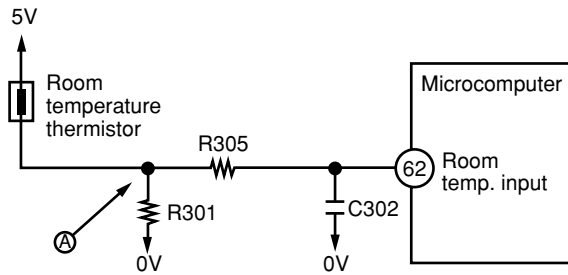

Fig. 4-1
- Fig. 4-1 shows the room temperature thermistor circuit.